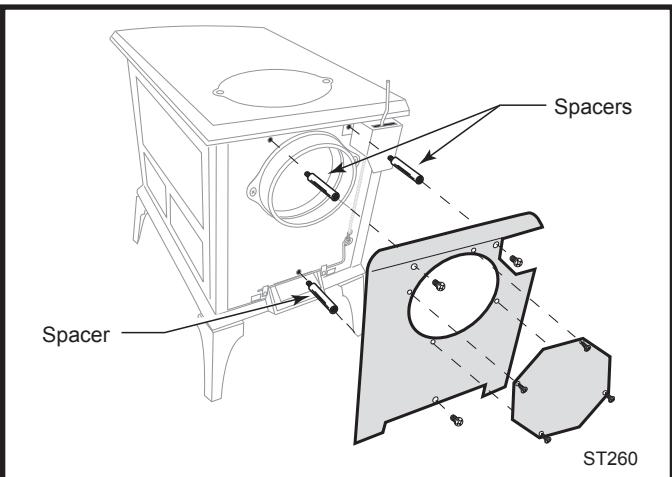

Fig. 26 Install the rear heat shield.
- Remove the three phillips head screws from the back of the stove. The upper right screw also serves to secure the thermostat cover to the stove. (Fig. 26)